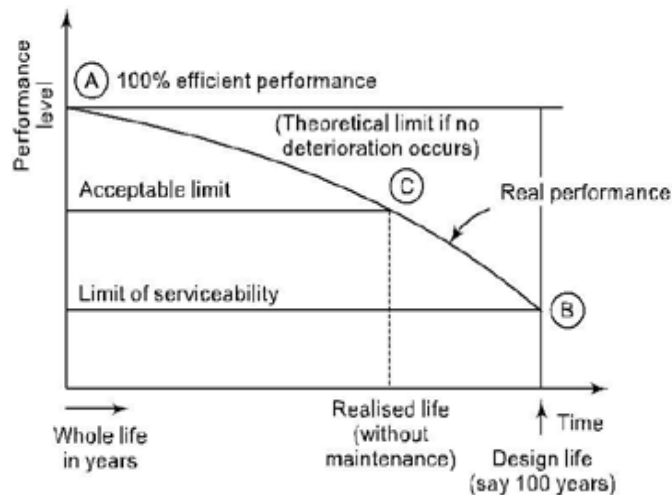

Fig. 14 Performance Model
The purpose of the maintenance of a concrete structure is to ensure its safety and serviceability at acceptable performance levels. Structural safety and serviceability are essential. The performance level shows the level of satisfaction by the user with respect to the functional utility of the structure. This is illustrated with the help of a performance model in Fig. 14. As can be observed from the figure, the performance (A) of the structure deteriorates from the day the structure is opened for use and becomes unserviceable at stage B after, say, 100 years. However, the useful life of the structure may get terminated at stage C owing to the performance level going below the functionally acceptable limit. Hence the realized service life is less than that for which the structure was designed. In the absence of any regular maintenance this reduction can range from 10 to 80 years depending on the severity of environment. To achieve the full designed service life, periodical maintenance thus becomes inevitable.